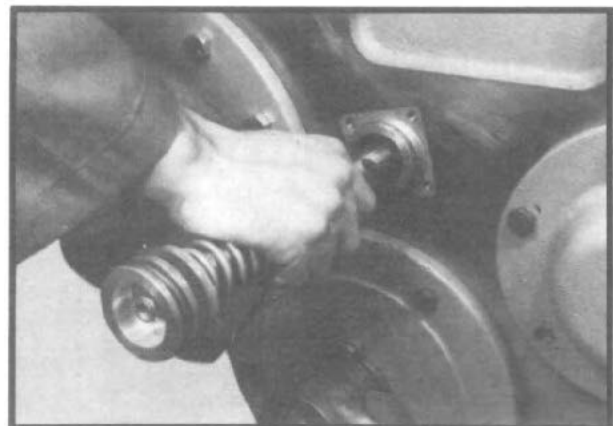

Fig. 21
9. Using a hexwrench, unscrew shaft from fork, running jam nut down and off shaft. Withdraw shift piston and shifter shaft from case (See fig. 21.)